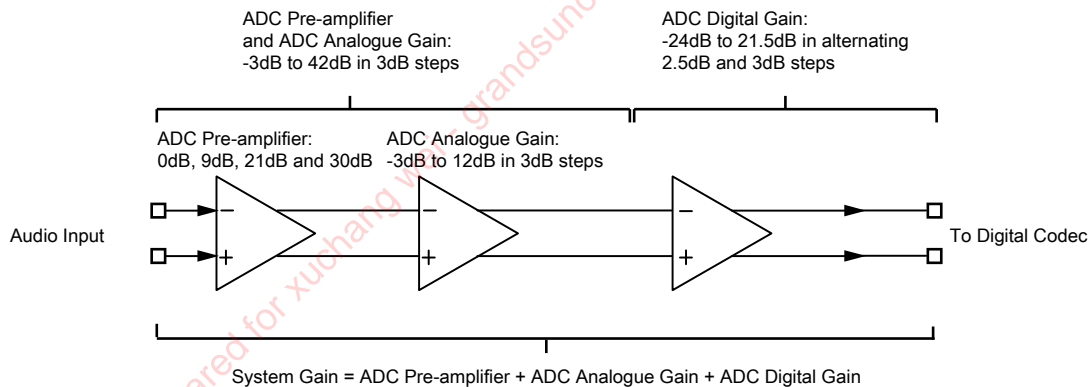

Figure 9.3: Audio Input Gain
Figure 9.3 shows that the CSR8670 WLCSP audio input gain consists of:
- The overall analogue gain for the pre-amplifier and analogue amplifier is -3dB to 42dB in 3dB steps, see Figure 9.3